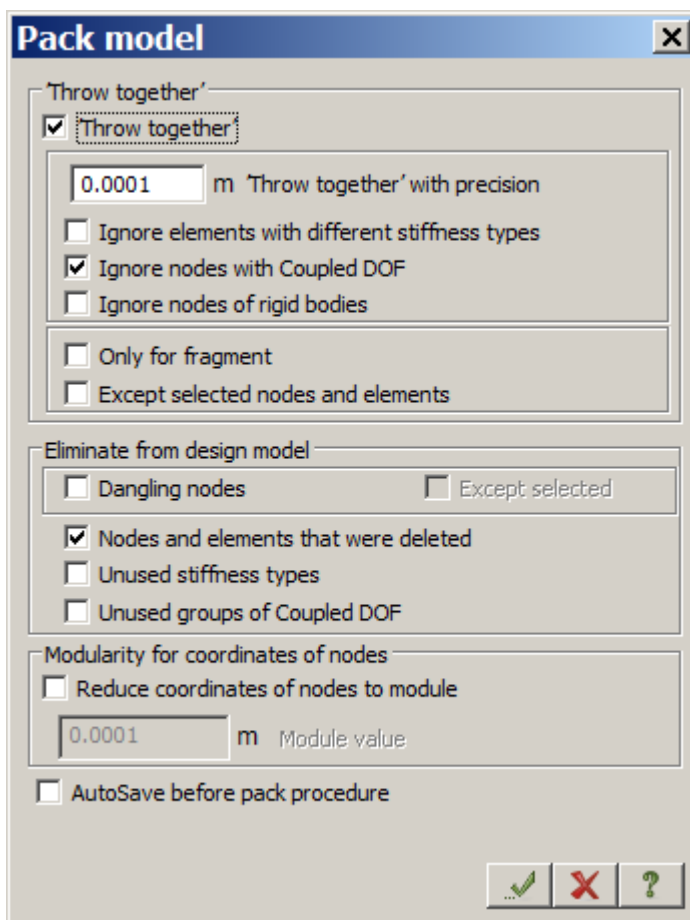

Figure 4.7 **Pack model** dialog box
- ⇒ In the **Pack model** dialog box (see Fig.4.7), click **Apply** . It is necessary to pack the model in order to 'throw together' coincident nodes and elements and to eliminate (that is, to remove completely) deleted nodes and elements from design model.